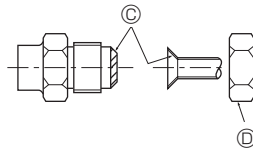

Fig. 4-1
### 4.2. Connecting pipes (Fig. 4-1)
④ (Fig. 4-1)
⑤ (Fig. 4-1)